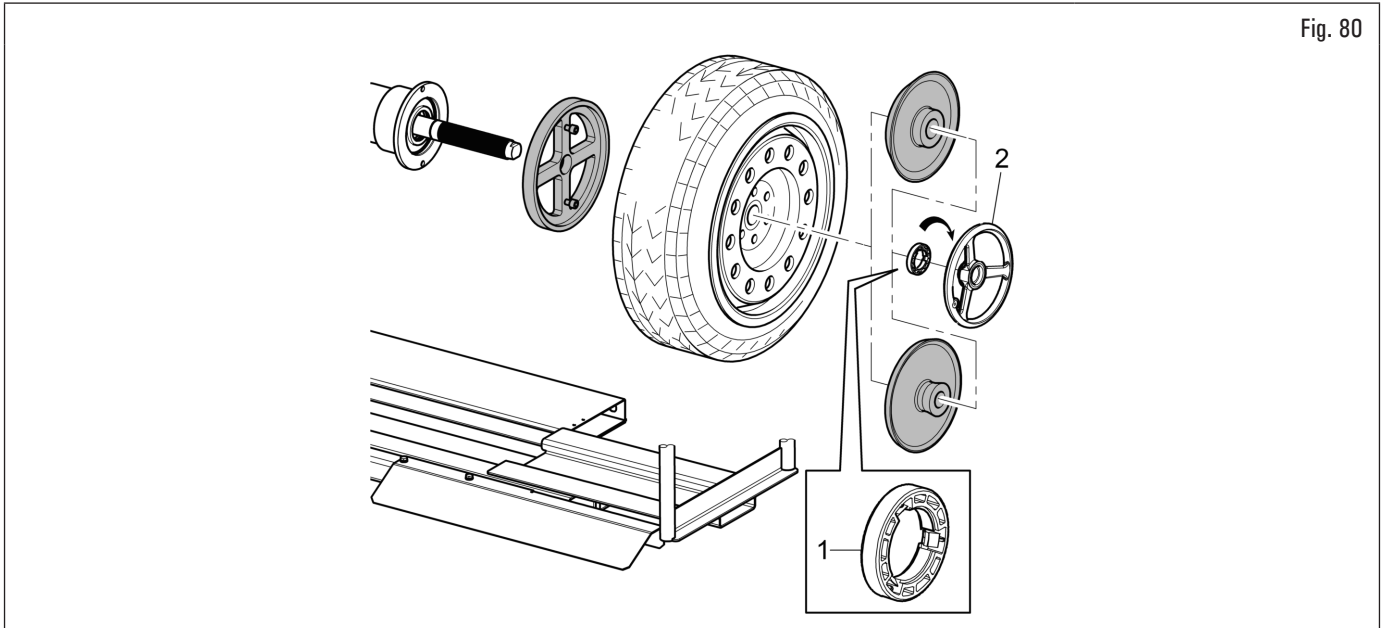

Fig. 80
Pay particular attention to the assembly sequence of the locking accessories, as shown in Fig. 80.
The pressure ring (Fig. 80 ref. 1) must be mounted with the teeth or discharge side towards the ring nut (Fig. 80 ref. 2).